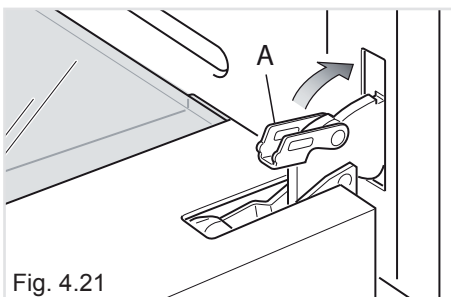

Fig. 4.21
- Unlock the oven door by opening it completely and closing the lever “A” on the left and right hinges (fig. 4.21).